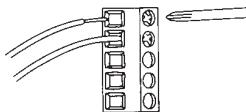

Figure 3
- Make sure the Function switch is set at OFF, and the FAN-AUTO switch is in AUTO. Push the connectors at the end of each Thermostat wire onto the appropriate coded terminals on the wallplate, matching the colors. (See Figures 3 and 3A.)